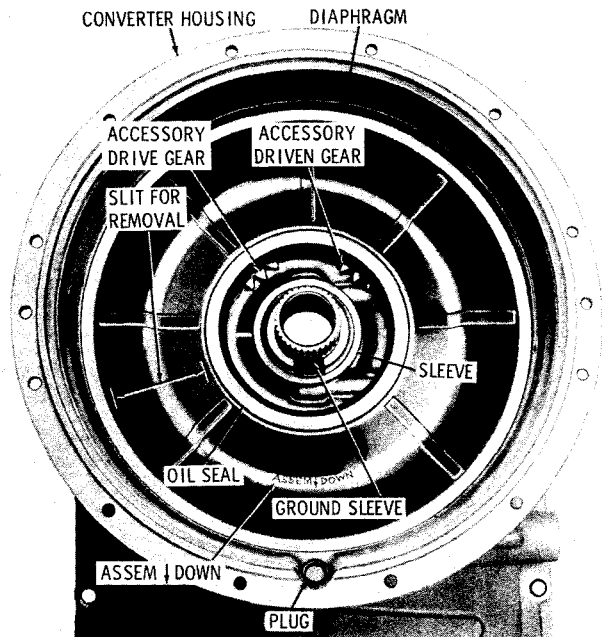

Fig. 6-6. Torque converter housing—front view (models with "dry" converter housing)
If the transmission does not include the diaphragm shown in figure 6-6, begin disassembly at step (5).
(1) "Dry" converter housings. If the transmission has a "dry" converter housing, it will have a pressed steel diaphragm and oil seal (fig. 6-6). These must be removed before the accessory gearing can be removed. Removal of the diaphragm destroys the diaphragm and seal.
(2) To remove the diaphragm, cut a slit through the diaphragm, as shown in figure 6-6. Insert a hooked tool into the slit and pry the metal above the slit outward. This will push the metal below the slit inward. Deforming the diaphragm in this manner will reduce its outside diameter and allow the diaphragm to be lifted from the converter housing.
(3) Clean the bore from which the diaphragm was removed. A smooth, clean bore will prevent leakage after the new diaphragm has been installed.
(4) Remove the cup plug from the converter housing only if replacement is necessary (fig. 6-6). If necessary, drive the plug from its bore, and clean the bore from which the plug was removed.
(5) All models. Remove step-joint sealring 50 (foldout 7,B) from converter housing sleeve 40. If replacement is necessary,
(11) "Dry" converter housings. Coat the outer diameter of a new diaphragm and seal assembly with nonhardening sealer and start it, convex side first and arrow pointing toward bottom of transmission, into the front of the converter housing (fig. 6-6). Using two soft hammers (one driving against the other or a block of wood contoured to the circumference of the diaphragm), drive the diaphragm assembly onto its seat in the housing bore. Move the driver evenly around the circumference, driving only slightly at each position.
(12) If plug 49 (foldout 7,B) was removed, coat the outer diameter of the new plug with nonhardening sealer. Drive plug 49, flat side first, into the converter housing, and seat it against the shoulder in the bore.